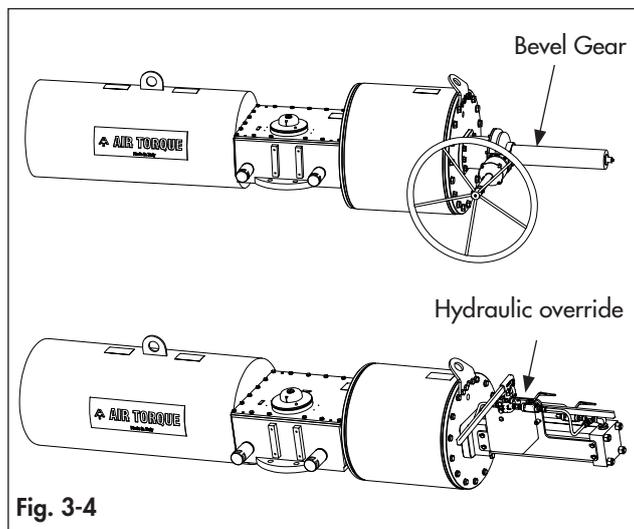

Fig. 3-4
- In case of a Bevel gear the actuator and the valve are operated rotating a handwheel.(Fig. 3-4)
- In case of a Hydraulic override the actuator and the valve are operated by means of a hand pump.(Fig. 3-4)